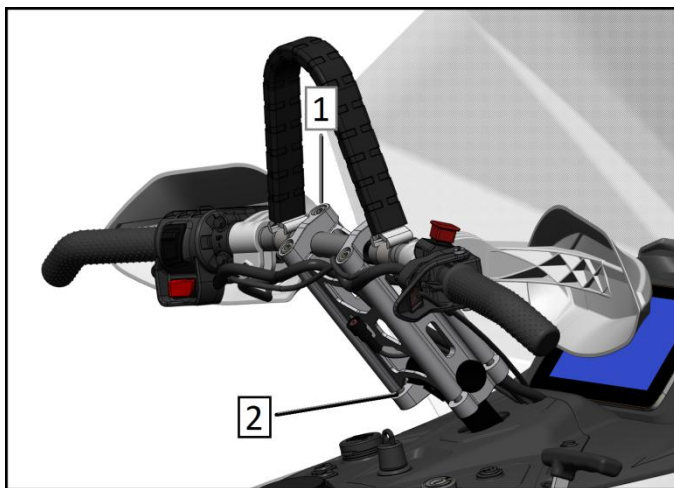

Fig. 8
-Loosen the lower screw (Pose 1, Figure 8) in a 6 mm hexagon to change the position of the steering wheel by changing the tilt angle of the steering column.
-Loosen the upper screw (Pose 2, Figure 8) with a 6 mm hexagon to change the steering angle in the steering column.